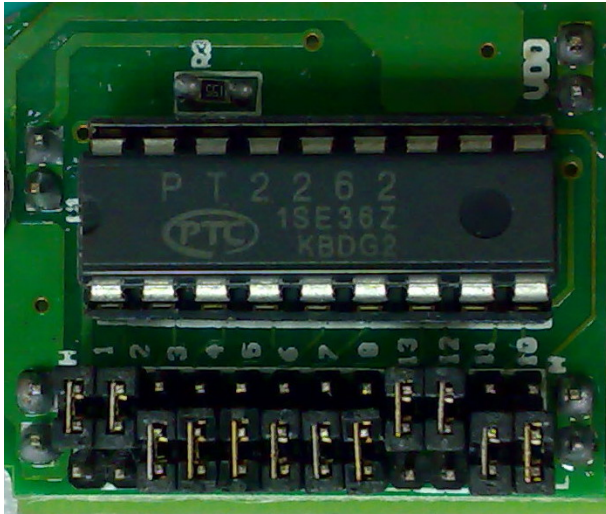

Fig.9 InfraRed Beam detector DIP Switch
1. Hold both caps (black) on the InfraRed Beam detector and pull in opposite direction to reveal the DIP switch (see Fig. 9.).